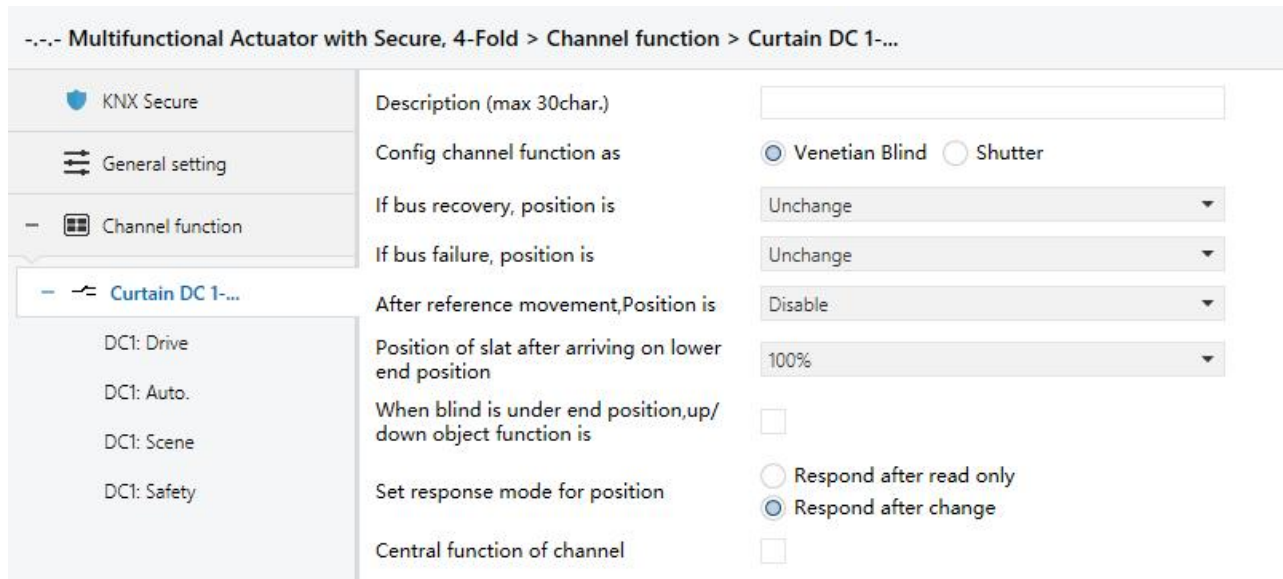

Fig. 4.7 Parameter window "Curtain DC X"
4.7. Shutter (DC) outputs
The curtain (DC) output has a maximum of 6 output channels, since the parameters and communication objects assigned to each output are the same as those of the curtain (AC) output, except that the parameters are not selected by the "Motor type" drive type. The parameter interface is shown in Figure 4.7.